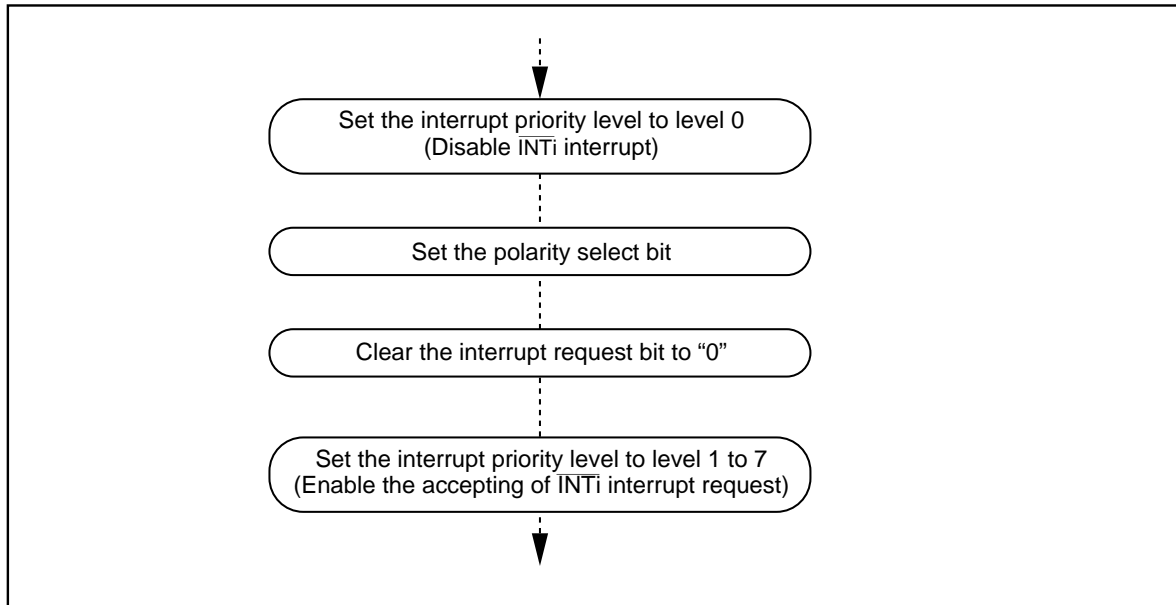

Figure 4.7.1. Switching condition of  $\overline{\text{INT}}$  interrupt request
- When the polarity of the INT0 to INT2 pins is changed, the interrupt request bit is sometimes set to "1". After changing the polarity, set the interrupt request bit to "0". Figure 4.7.1 shows the procedure for changing the  $\overline{\text{INT}}$  interrupt generate factor.